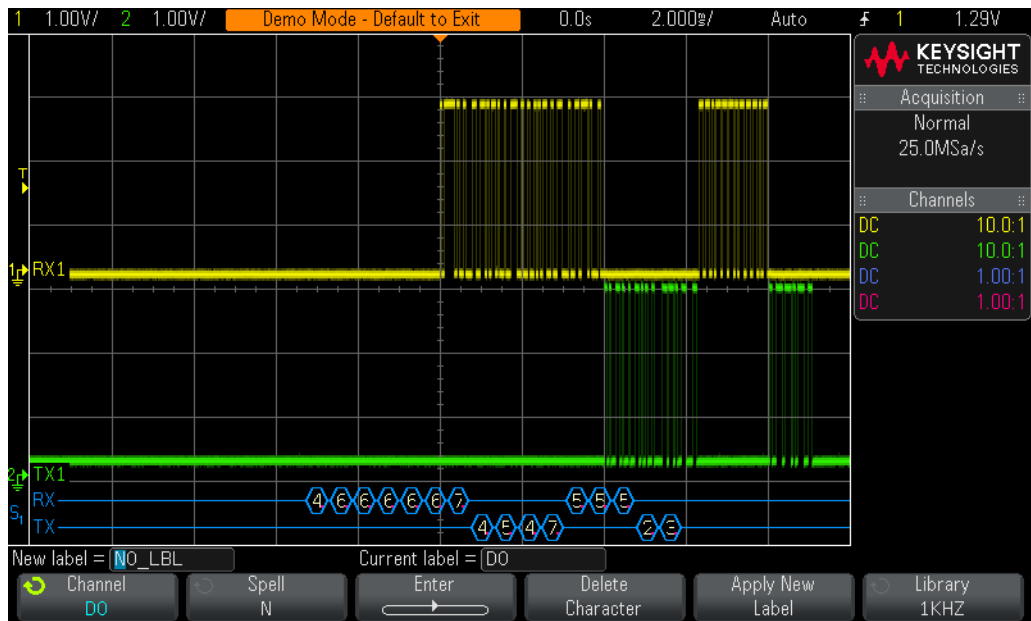

Figure 61 Decoding the RS232/UART serial bus.
You should now see RS232/UART decoding of these signals on your scope's display similar to **Figure 61**, but we still haven't established stable triggering. The scope is still triggering on any rising edge of channel-1 (default trigger condition). Let's now set up the scope to trigger when the transmit data signal (TX) is equal to $4D_{\text{HEX}}$.